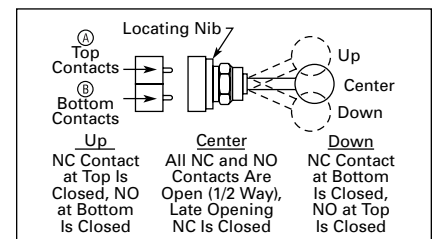

Figure 47-90. A and B Mounting Location
⑤ Bolded circuit corresponds to "X-O" circuit selection. X = closed circuit, O = open circuit.
⑥ See Figure 47-90 for "A" and "B" mounting location.
⑦ NO = Normally Open, NC = Normally Closed, LONC = Late Opening Normally Closed.
⑧ Four circuits in single block depth — rated 300V max.